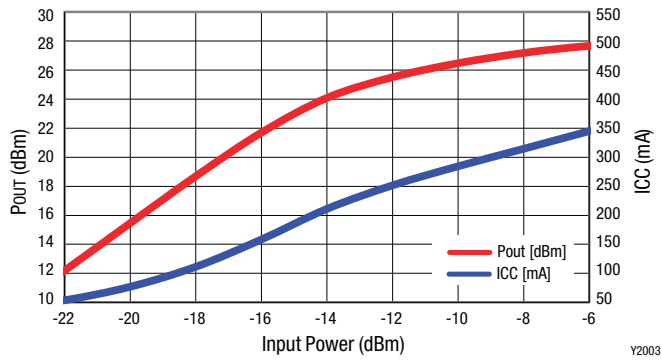

Figure 3. Pout and ICC vs Pin
- Note 3:** Requires EK1 output match network designed for +24 dBm. See Figure 3. Contact Skyworks Application Support for more information.
- Note 3:** Insertion loss increases to 0.9 dB when using an external antenna filter. See Figure 3.
(V_{CC} = +3.3 V, T_c = +25 °C, f = 169 to 170 MHz, Characteristic Source and Load Impedance = 50 Ω, with Output Matching Network as in Figure 3, CW Input, Unless Otherwise Noted)
Note 5: Requires EK1 output match network designed for +24 dBm. See Figure 3. Contact Skyworks Application Support for more information.